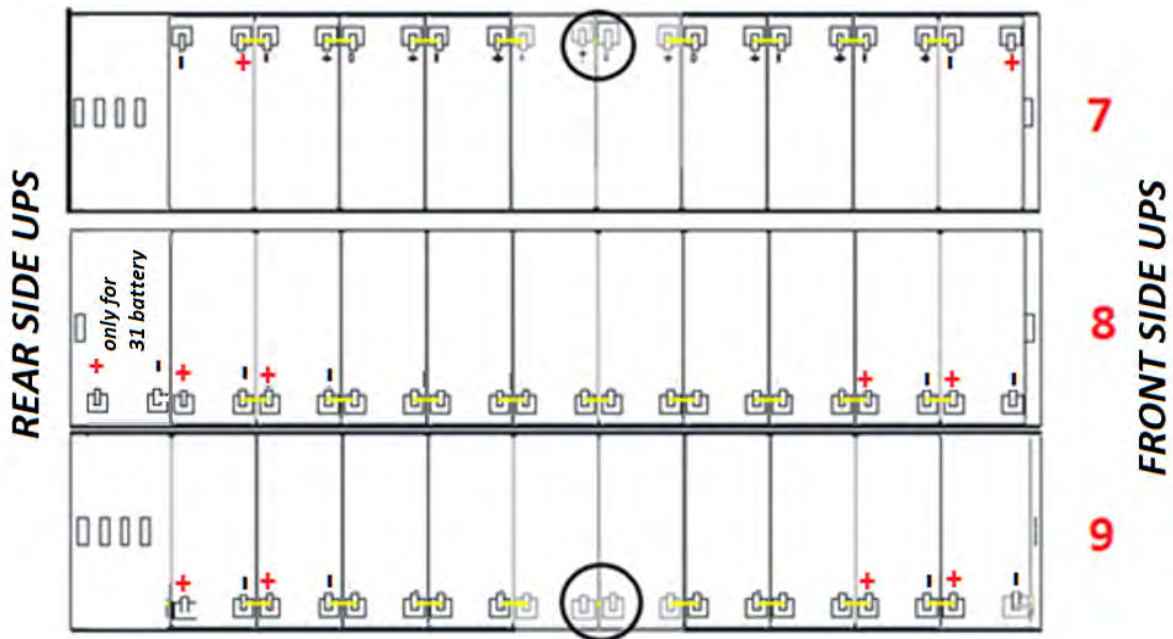

Figure 16 - View from above Level No.3
9) On Level no.3, insert trays no. 7-8-9 in compliance with the position as demonstrated in Figure 16.